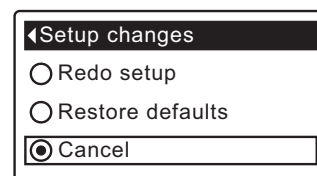

FIG. 92
7. Press the SELECT (O) button to display the Setup changes menu (See Figure 92).
8. If the desired option already has a black dot next to it (See Figure 92), go to Step 9. Otherwise, press the DOWN (▼) or UP (▲) buttons to scroll to the desired option, then press SELECT (O) to choose it.